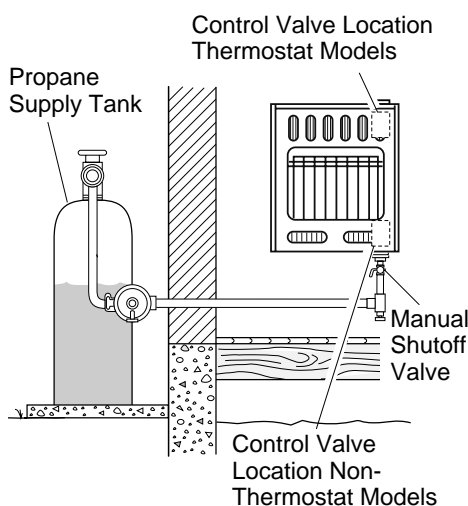

Figure 16 - Checking Gas Joints
3. Check all joints from propane supply tank to manual shutoff valve (see Figure 16). Apply mixture of liquid soap and water to gas joints. Bubbles forming show a leak.
4. Check all joints from manual shutoff valve to control valve (see Figure 16). Apply mixture of liquid soap and water to gas joints. Bubbles forming show a leak.